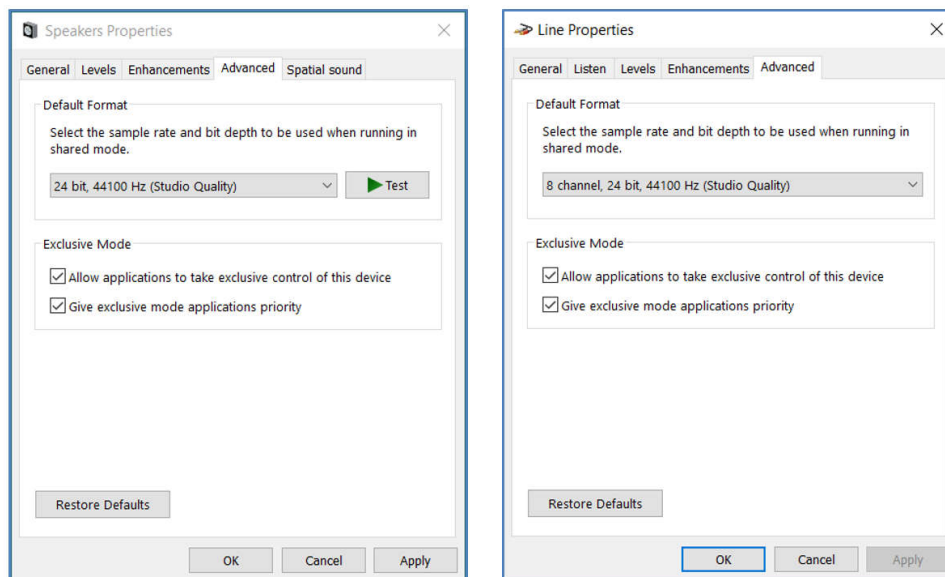

Figure 4-3. Sound Settings for Learning Board
- Open the additional devices properties of both output and input devices, and check the sampling rate of the devices in the *Advanced* item. The correct configuration needs to be as shown in Figure 4-3.